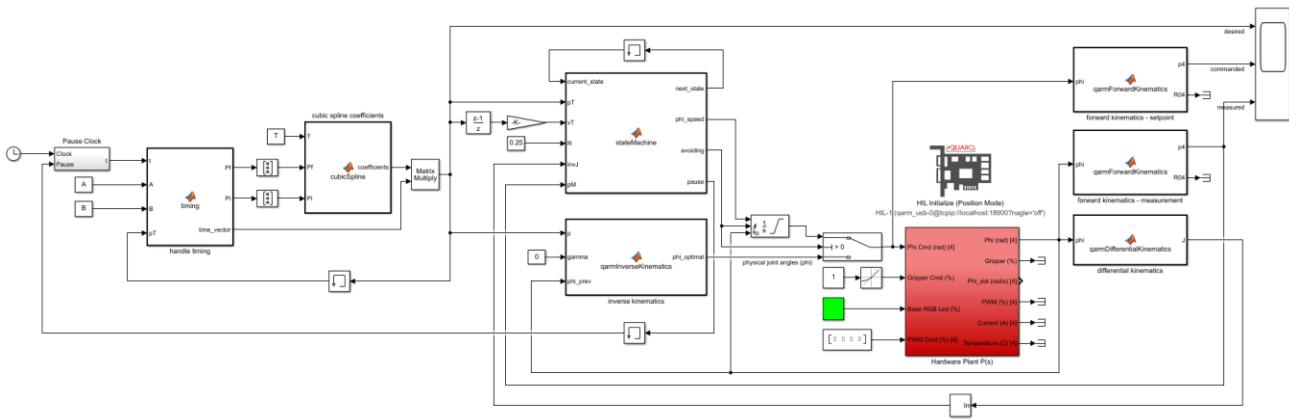

Figure 3: Simulink model that implements a singularity avoidance algorithm using a finite state machine
1. Open the Simulink model SingularityAvoidance.slx (Figure 3).
3. Open the `stateMachine` MATLAB function. Using the Concept Review as a guide, complete the script to implement the finite state machine shown in Figure 3. You are required to complete the State Transition and State Action sections for states 1, 2, 3, and 4, namely assuming the appropriate values to the following variables: `next_state`, `phi_speed`, and `avoiding`. Recall that the state machine will determine if the target position (`pT`) falls within the singularity avoidance region; if it does an alternative trajectory along the surface of the singularity avoidance cylinder is commanded to the end-effector otherwise the original cubic spline trajectory (`P`) is commanded. In the function, by setting the variable `avoiding` to 1, you will force the end effector to follow the perimeter of the avoidance region, otherwise setting it to 0 commands the linear trajectory.